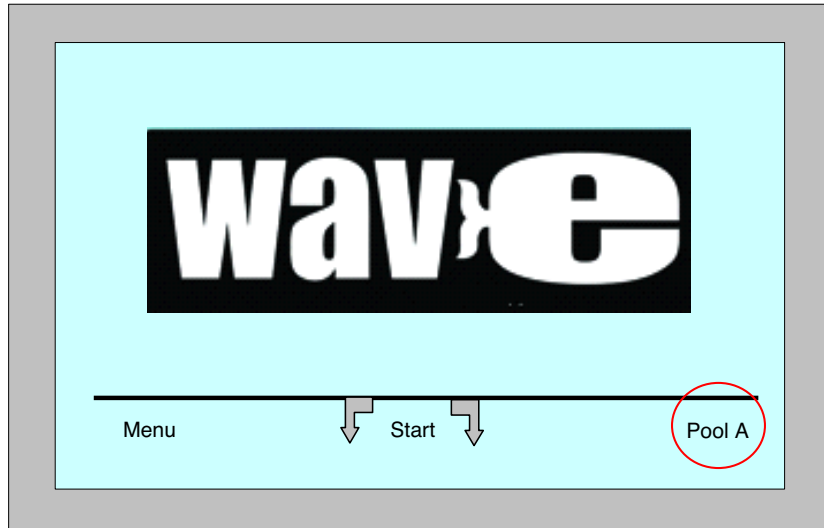

Figure 9: Wave screen showing Pool A as default setting
1. Go to the Wave screen. "Pool A" is displayed as the currently defined setting as shown in Figure 9.
1. From the *Wave* screen, press the currently displayed pool setting at the right side of the screen (see Figure 9) to open the *Pool Profile* screen.